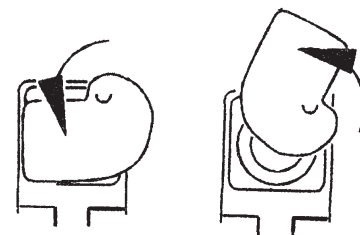

Fig. 10 BLANKING PLATE OPERATION
- Step 5. Switch the **RN TEST** tester to the flash and bleep mode (**TOGGLE UP**) and connect yellow lead to signal-strength test point. Use alignment viewer to aim **RN TEST** at the Tx tower. Adjust Rx C to give maximum flash/bleep rate. Progressively block lens with blanking plate (Fig. 10), adjusting to maintain fastest flash/bleep rate. When alignment is completed, fully open blanking plate on Rx C.
- Step 6. Align transmitter head C to give maximum flash/bleep rate. Progressively block lens with blanking plate (Fig. 10) adjusting to maintain fastest flash/bleep rate. When fully adjusted leave blanking plate in position. When alignment is completed, fully tighten hex head bolts to lock head.